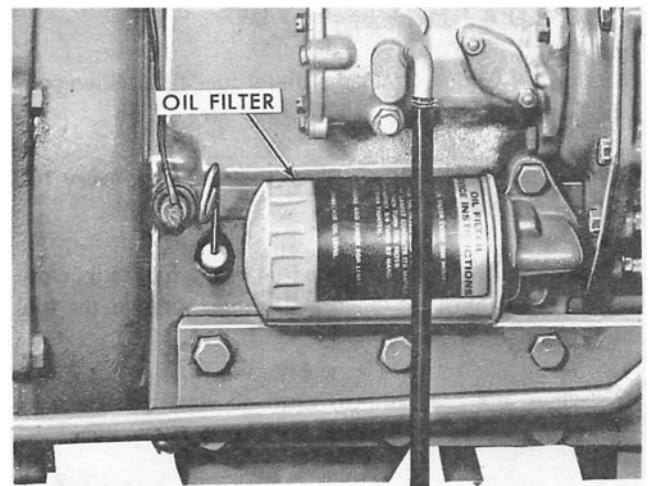

Figure 25
2. Unscrew the oil filter, Figure 25, catching the used oil in a suitable container placed below the filter. Discard the filter.